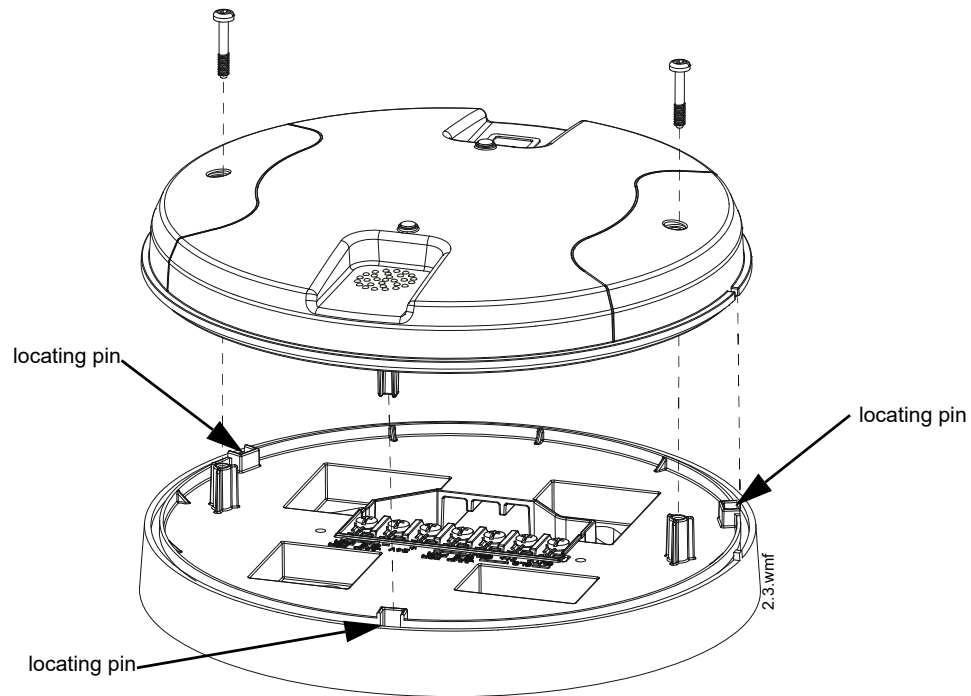

Figure 2.4 Attaching Cover to Mounting Plate
5. To mount the cover, align the locating pins on the cover to the corresponding slots in the mounting plate. See Figure 2.4.